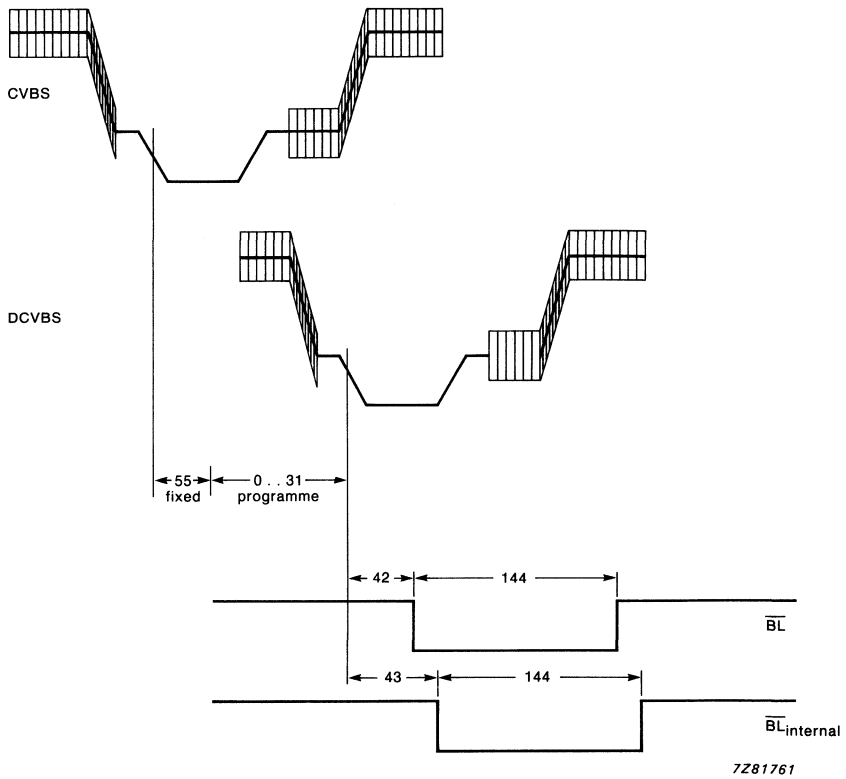

Fig. 6 Timing relationship between the line-reference signal ( $\overline{BL}$ ) and the composite video signal.
The format for the UV output is the same as that of the UV I/O port in the DSMD (SAA9050/51). The timing multiplexer is controlled by the external signal BL from the DSMD. Signal BL is also used as a line-locked synchronization signal to generate several internal burst gate pulses. Figure 6 illustrates the timing relationship between the line-reference signal (BL) and the composite video signal.